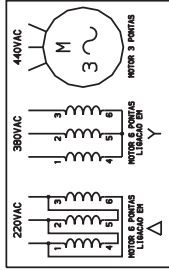

FIGURA 1
- 8-A CONTATORA E O RELE DE SOBRECARGA ESTAO NA CX. ELETRICA. A LIGACAO DO EVAPORADOR E FEITA EM CAMPO OBEDECENDO A LIGACAO DA FIGURA 1.